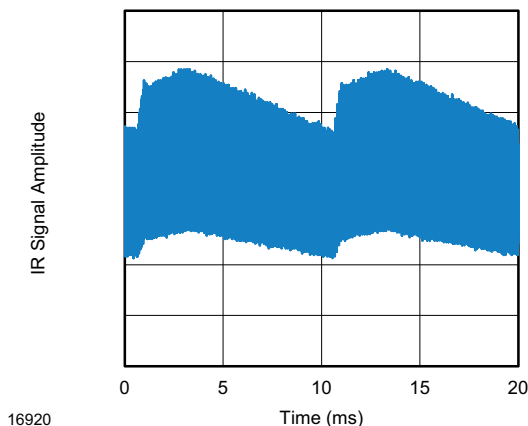

Fig. 13 - IR Disturbance from Fluorescent Lamp With Low Modulation
- Strongly or weakly modulated patterns from fluorescent lamps with electronic ballasts (see Fig. 13 or Fig. 14)